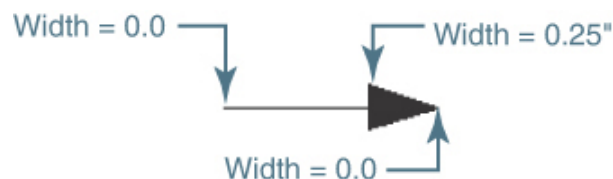

Figure 9-19
arrow that tapers from a point to a base width of 0.25", you would type **0<Enter>** when AutoCAD prompts *Specify starting width<0.0000>*: to create the arrow point and then type **.25<Enter>** when AutoCAD prompts *Specify ending width<0.1000>*: to indicate the base width, as shown in Figure 9-19.
- 3** Create a polyline arrow that tapers from a point to a base width of 0.25" similar to the polyline shown in Figure 9-19 using the **PLINE** command and the **Width** option.